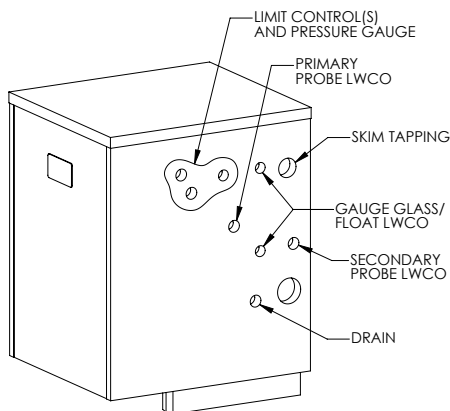

Figure 6.2: Steam Boiler Tapping Location
Install the 3/4" drain valve provided into the drain tapping on the right hand side of the boiler. Refer to Figure 6.2 for tapping location.
Install the optional probe type low water cut-off into the 3/4" tapping on the right side of the boiler. Refer to Figure 6.2 for tapping location.
- a. Install the operating limit control and pressure gauge in the 3/4" tapping located on the right side of the boiler. Refer to Figure 6.2 for tapping location.